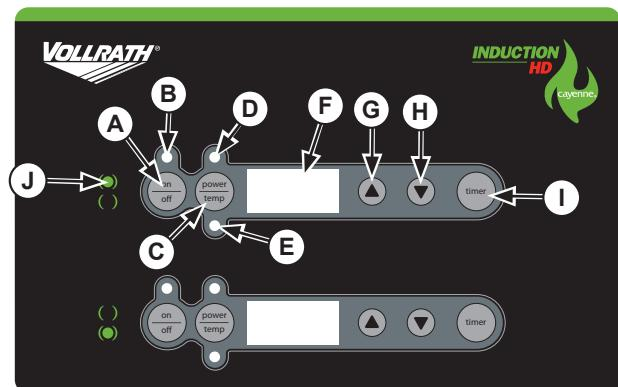

Figure 2. Digital Model Control Panel
1. Press the on/off button (A) to turn on the hob on. See Figure 2. The on led (B) will illuminate. When induction-ready cookware is placed on the range, the display will remain "steady on" with a value. This indicates the unit is heating. Models with two heating surfaces will have separate ON/OFF buttons for each heating surface.
2. Press the power/temp button (C) to choose a cooking power level (1 – 100) or an approximate temperature (100° – 400° F). The power led light (D) will illuminate when the unit is in the power mode. The temperature light (E) will illuminate when the unit is in the temperature mode.
3. Press the up button (G) or the down button (H) to increase or decrease the power level or temperature.